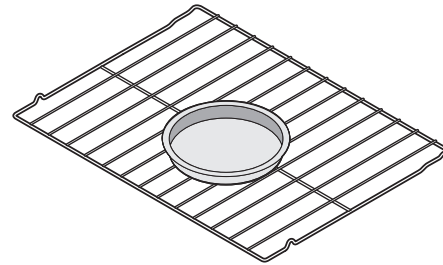
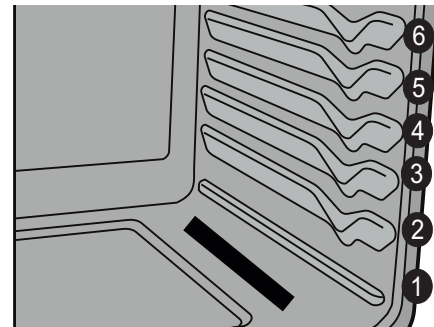

Figure 18: Single rack baking for convenience foods
Figure 19: Oven rack position (4) best for cooking convenience foods
- Always place food in center of the oven on rack position 4 (Figure 19). Place the food as shown in Figure 18.